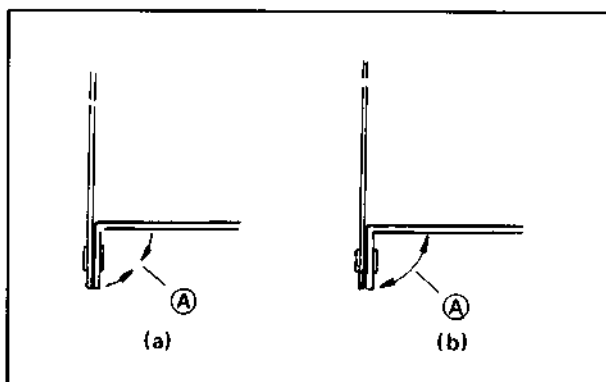

Fig. 4-13
6. If measured take-up loading tension is greater than 40 grams, slightly and carefully bend the take-up loading brake lever at point A as shown in Fig. 4-13(a).
7. If measured take-up loading tension is less than 30 grams, slightly bend the take-up loading brake lever at point A as shown in Fig. 4-13(b).